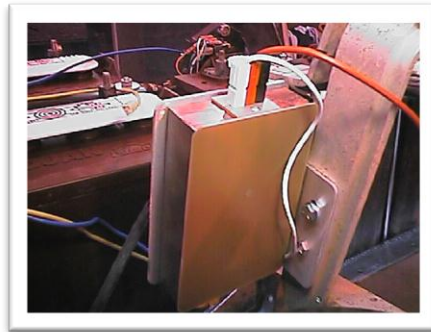

Figure 7 Converter
27. Mount the 48VDC to 12VDC converter on the vehicle frame (Figure 7).